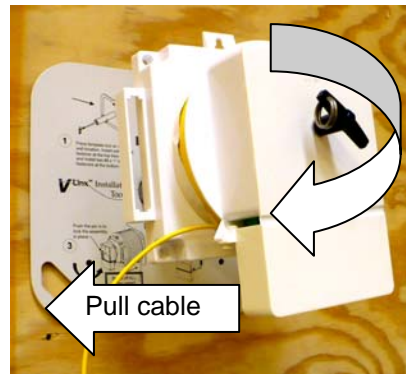

Fig. 3
5. - Unreel the required length of 3mm cable from the Terminal. Refer to Figure 3.